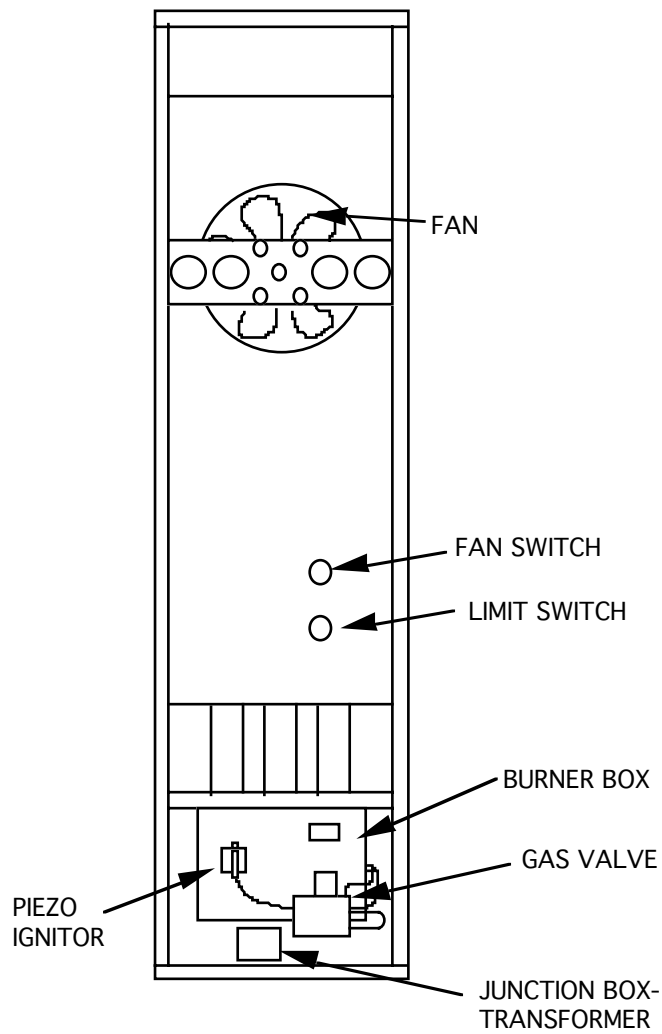

Figure 14
3. To check for line voltage to furnace, remove front panel and short across two-terminal fan control to allow fan to operate. (Figure 14)